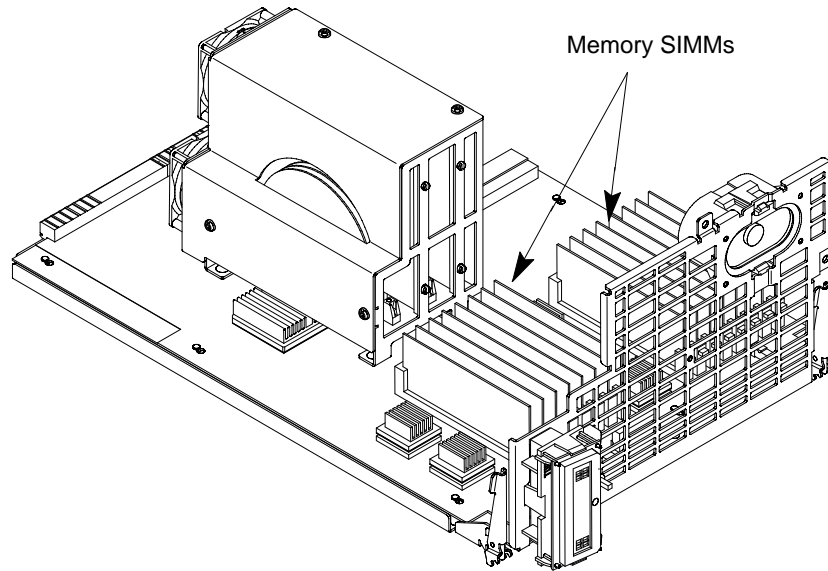

Figure A-20. Memory SIMM Location
5. Use Figure A-20 to locate the memory SIMMs on the CPU Assembly.